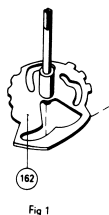

Fig 1
WR-06 The shape of the command bracket, pos. 162 for the switch SK1 and SK101 has been altered, see fig. 1. As a result the switches SK1 and SK101 are forced to slide back when switching back.